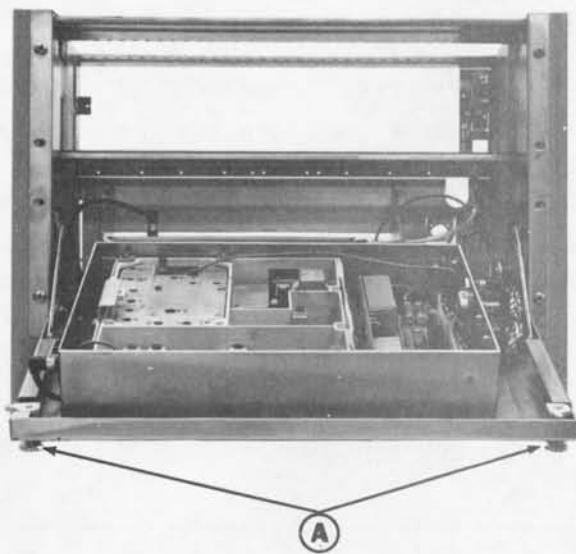

Figure 2 - Access to Exciter Front View
1. Turn the two latching knobs (A) counterclockwise to unlatch the Radio Panel Front Door. Refer to Figure 2.